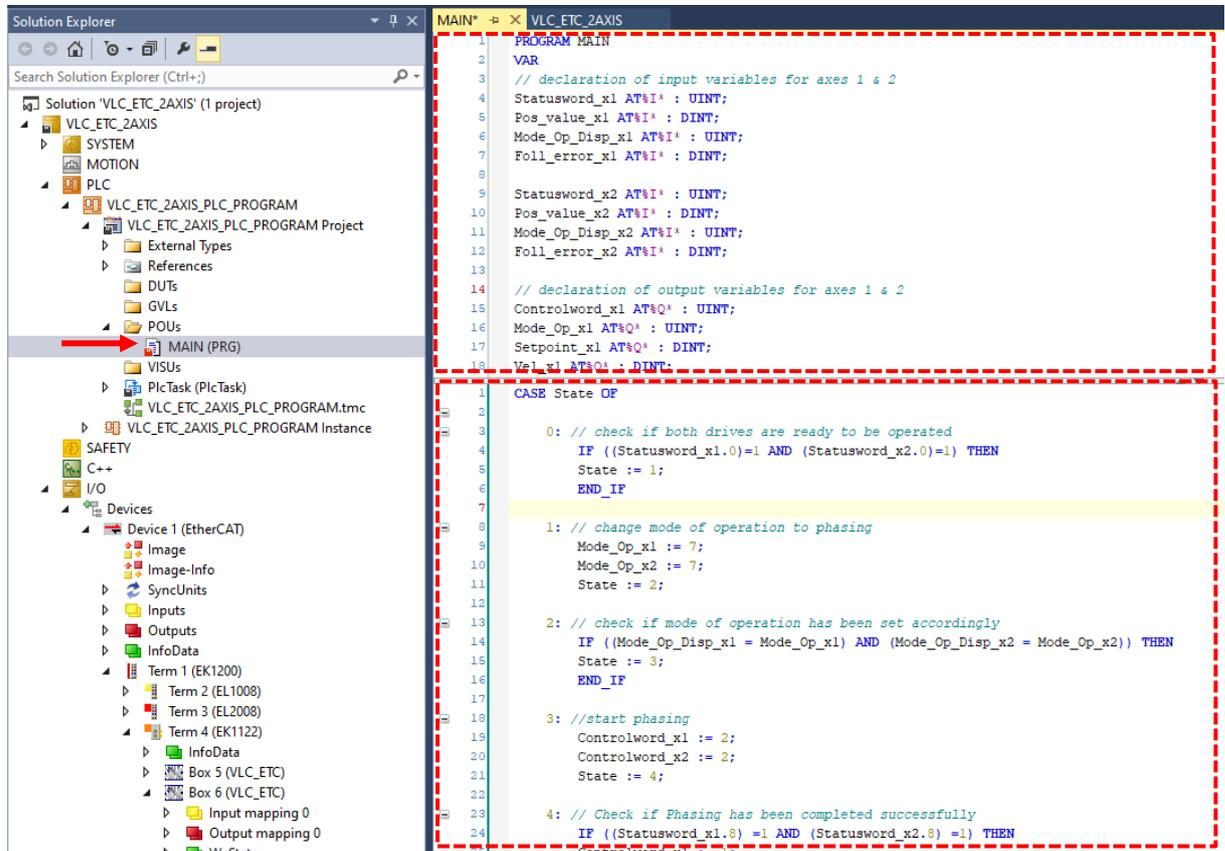

Figure 3.21.
- Go to the PLC program editor as shown in the left pane of Figure 3.21. The top rectangle is where the program variables are declared, while the bottom one is where the program logic will be located. In this example, the sequence of motions consists of: phasing – homing – repetitive position move.